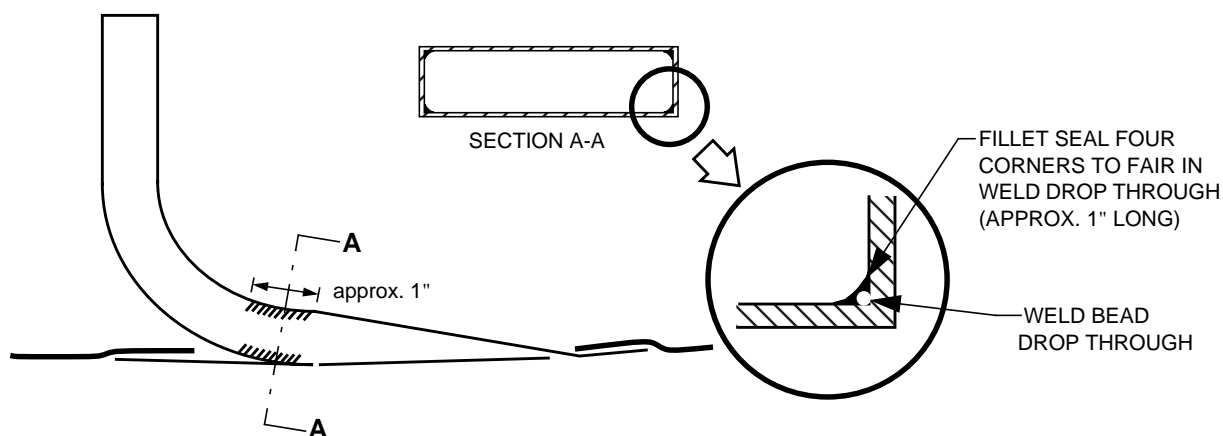

Figure 3 - Fillet Sealing of NACA Vent Ducts
- Step 1. Close off the NACA vent ducts in the surge bay from the outside (lower wing skins) using the SD6176 rectangular plugs from the 82820005-001-141A kit. If the corners of the ducts have not been fillet sealed to fair in the weld drop-through, apply DHMS S3.01/B2 sealant as shown in Figure 3 and allow to cure according to PPS 21.03 before installing the SD6176 plugs. Ensure warning streamers are attached to the plugs.